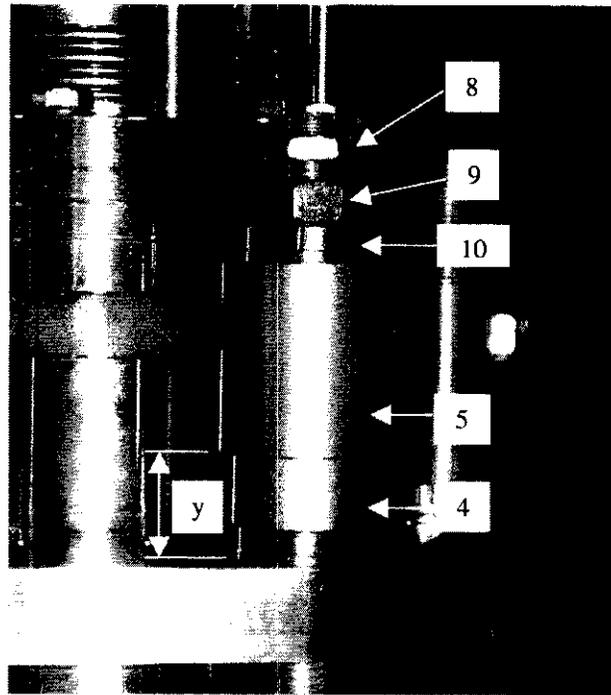
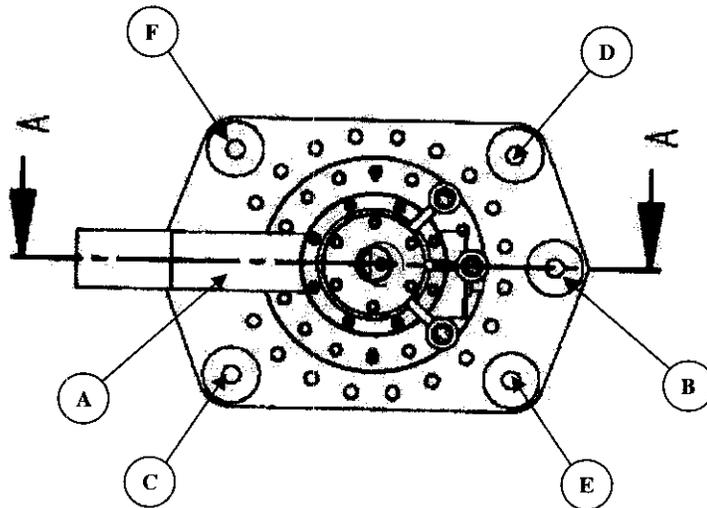

Figure 1.28a An installed Belleville Washer Assembly.
Figure 1.29.1.5 The specified sequence for tightening the Belleville Washer Assemblies.
- 1.28** Install Belleville Washer Assemblies on each tensioning stud per Figures 1.28a and 1.28b. A spherical washer must be placed below the Belleville washer holder on each stud. In the figures: Items 11 (10 each) are Belleville Washers, arranged as shown; Items 6 (2 each) are flat washers; Items 4 and 5 are the Belleville Washer Holder; Item 10 are Spherical Washers for above and below the washer holder; Item 9 is a loading nut; and Item 8 is a jam nut.
- 1.29.1.2** Tighten the 6 loading nuts finger-tight. With adjustable parallels, measure and record the gap "y" indicated in Figure 1.28a between Item 5 and the current lead top flange at the 6 locations specified in Figure 1.29.1.5. Units are mm.
- 1.29.1.4** Using the sequence A through F in Figure 1.29.1.5, tighten the loading nuts ¼ turn until the total compression is 1.8 mm at each of the six locations. As each loading nut is tightened ¼ turn, check off the appropriate line.
1.29.1.5 Record the final measured gaps 'y' in Figure 1.28a. Units are mm.
1.29.2.2 Tighten the 6 loading nuts finger-tight. With adjustable parallels, measure and record the gap "y" indicated in Figure 1.28a between Item 5 and the current lead top flange at the 6 locations specified in Figure 1.29.1.5. Units are mm.
1.29.2.4 Using the sequence A through F in Figure 1.29.1.5, tighten the loading nuts ¼ turn until the total compression is 1.8 mm at each of the six locations. As each of the loading nuts is turned ¼ turns, check off the appropriate line.
1.29.2.5 Record the final measured gaps 'y' in Figure 1.28a. Units are mm.